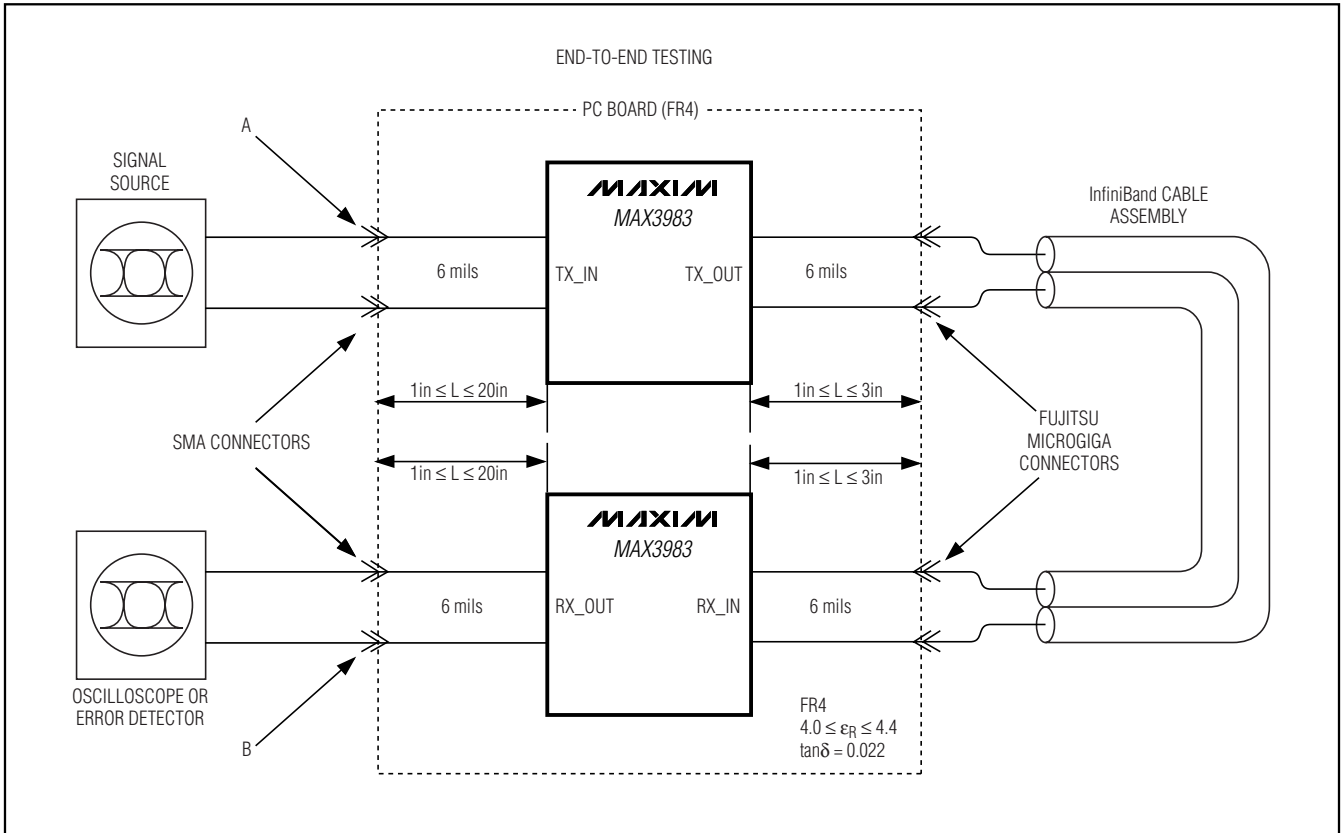

Figure 2. End-to-End Test Setup. The points labeled A and B are referenced for AC parameter test conditions.
**Note 5:** Cables are unequalized, Amphenol Spectra-Strip 24AWG and 28AWG or equivalent equipped with Fujitsu "MicroGiga" connector or equivalent. All other channels are quiet. Residual deterministic jitter is the difference between the source jitter and the output jitter at the load. The deterministic jitter (DJ) at the output of the transmission line must be from media-induced loss and not from clock-source modulation. Depending upon the system environment, better results can be achieved by selecting different preemphasis levels.
**Note 13:** Cables are unequalized, Amphenol Spectra-Strip 24AWG or equivalent equipped with Fujitsu "MicroGiga" connector or equivalent. Residual deterministic jitter is the difference between the source jitter at point A and the load jitter at point B in Figure 2. The deterministic jitter (DJ) at the output of the transmission line must be from media-induced loss and not from clock-source modulation. Depending upon the system environment, better results can be achieved by selecting different preemphasis levels.